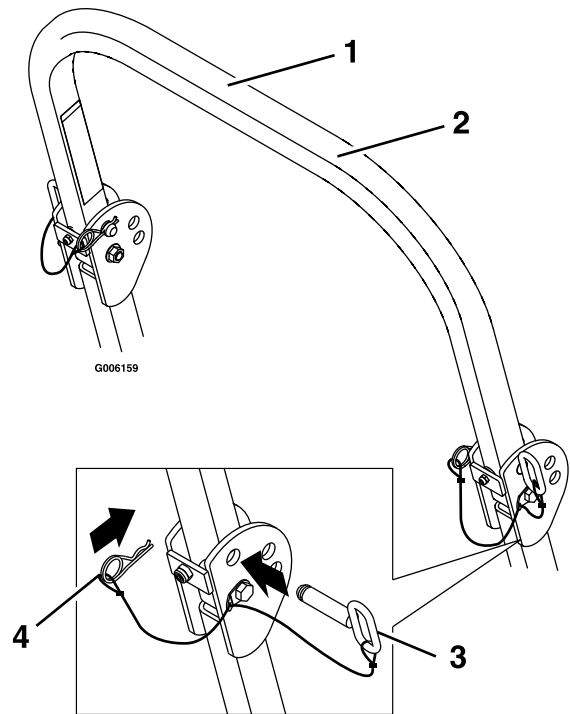

Figure 6
1. Remove the hairpin cotter pins and remove the two roll bar pins (Figure 6).
2. Raise the roll bar to the upright position and install the two pins and secure them with the hairpin cotter pins (Figure 6).